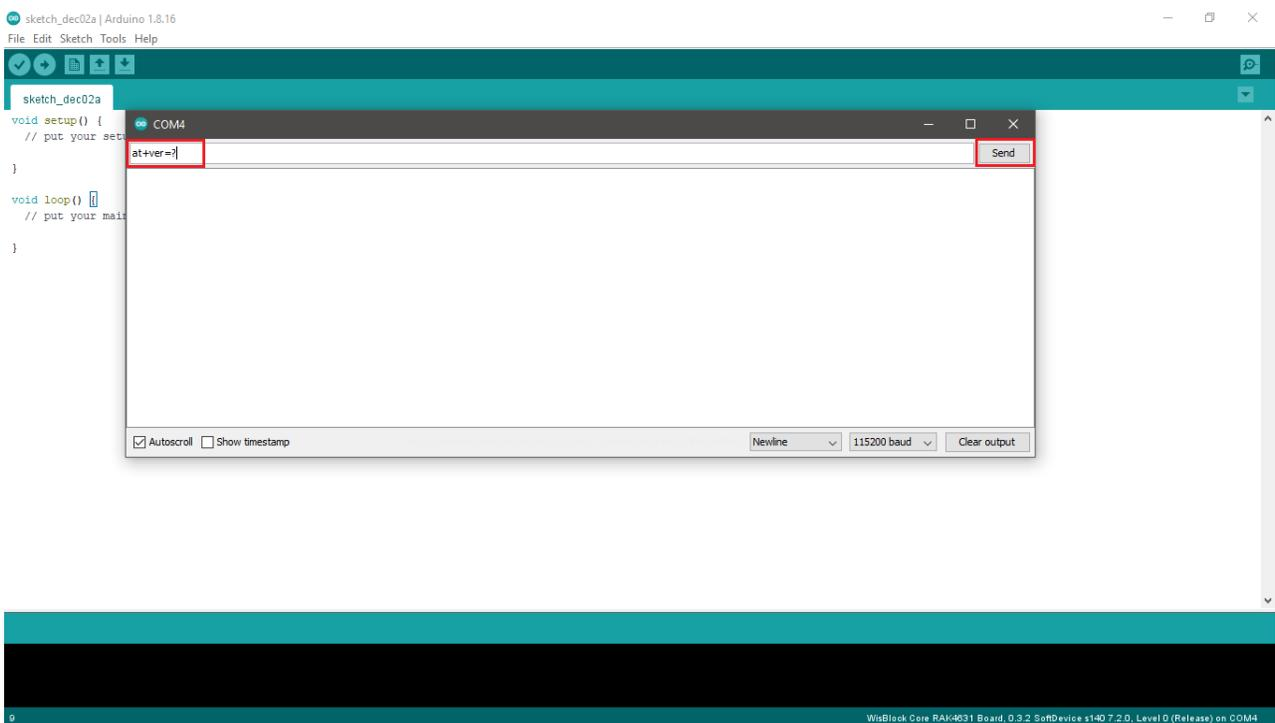

Figure 16: Send AT command
6. If the connection is successful, you can send AT Commands to RAK4630. For example: To check the RUI version, type `AT+VER=?` on the text area, then click on the **Send** button, as shown in **Figure 16**.